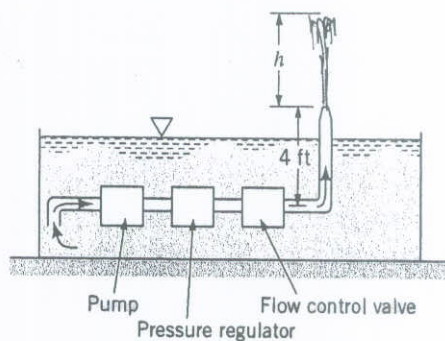

FIGURE P8.64
8.64 (See "New hi-tech fountains," Section 8.5.) The fountain shown in Fig. P8.64 is designed to provide a stream of water that rises  $h = 10$  ft to  $h = 20$  ft above the nozzle exit in a periodic fashion. To do this the water from the pool enters a pump, passes through a pressure regulator that maintains a constant pressure ahead of the flow control valve. The valve is electronically adjusted to provide the desired water height. With  $h = 10$  ft the loss coefficient for the valve is  $K_L = 50$ . Determine the valve loss coefficient needed for  $h = 20$  ft. All losses except for the flow control valve are negligible. The area of the pipe is 5 times the area of the exit nozzle.